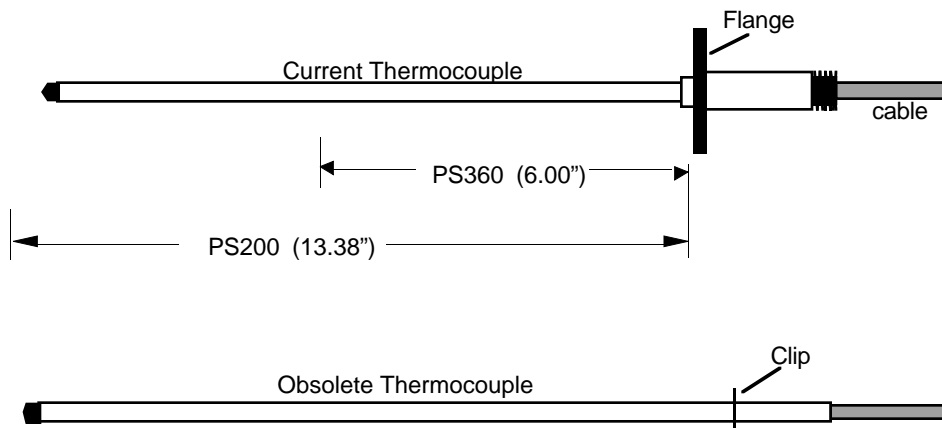

Figure 4 - Current & Obsolete Thermocouple Comparison.
5. Check to be sure the oven's thermocouple is the latest version flange mount style versus the obsolete version. See Figure 4 below.